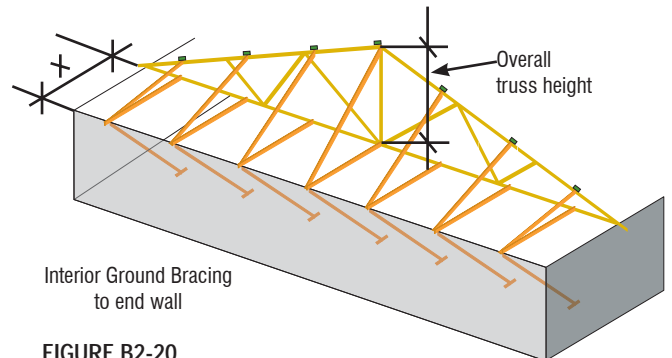

FIGURE B2-20
- ✓ Example of first truss installed with interior Ground Bracing to top of wall and back to floor below (see Figures B2-20 and 21).